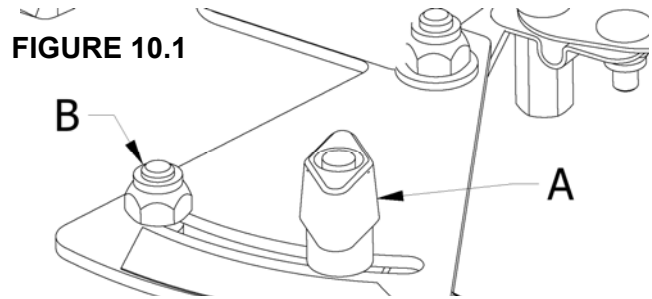

FIGURE 10.1
- The **HIGH GEAR** Spreader Rate Adjuster (**FIGURE 10.1**) is located at the lower front of the hopper.
- Referring to **FIGURE 10.1**, position the Black **HIGH GEAR** Rate Adjuster Knob (A) against the **HIGH GEAR** stop bolt (B).
- Referring to **FIGURE 10.1**, move the Black **HIGH GEAR** Rate Adjuster Knob counterclockwise to the left most position in the curved slot in the **HIGH GEAR** Rate Adjuster Bracket (**FIGURE 1-C**).
- Once your Pre-Calibrated **HIGH GEAR** setting is adjusted, reposition the stop bolt (**FIGURE 10.1-A**) against the Rate Adjuster Knob (**FIGURE 10.1-B**) to lock in your Pre-set location. A 3/16" Allen wrench is required.